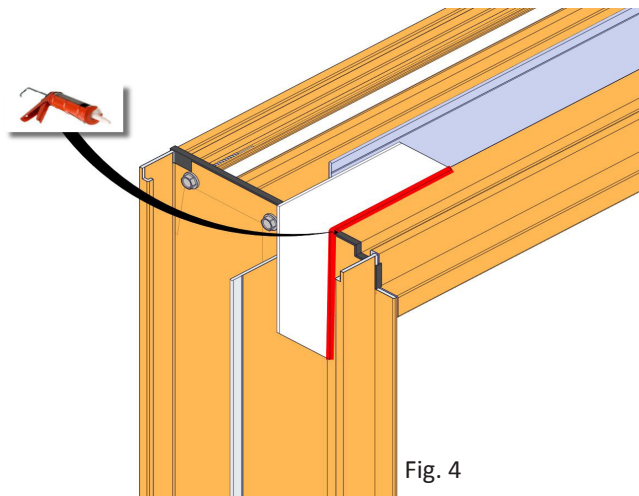

Fig. 4
4. Apply silicone sealant along the edge where the gaskets meets the window frame. (Fig. 4)